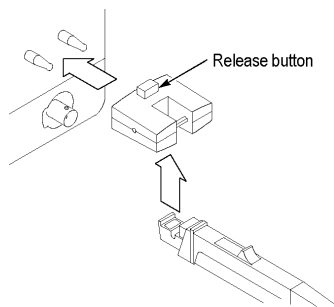

Figure 3: Connecting the Calibrator
1. To connect the calibrator, press the release button and connect the calibrator to the probe compensation output of the oscilloscope. (See Figure 3.)